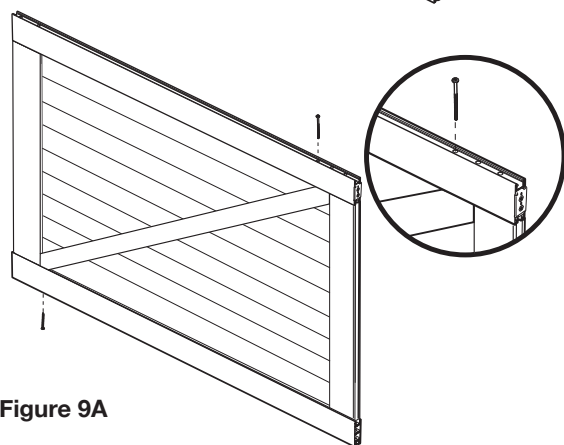

Figure 9A
Take one of the long screws (Z) and insert into the pre-drilled hole on the outer channel of the stile. Using the drill, secure the screw until it catches the Z cross bar. Be sure not to over-tighten the screw. Repeat on the other stile to fully secure the Z cross bar in the door frame. Again, do not over-tighten the screw. See Figure 9A.